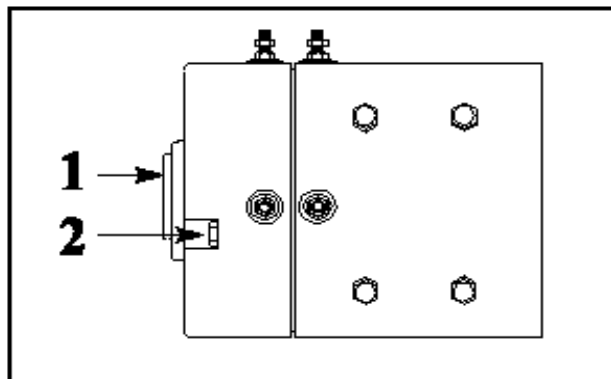

Figure 23 - Motor Disassembly
- Remove motor head cover (1) & two screws (2). See Figure 23.
Install motor head cover and armature assembly into field coil and frame assembly, aligning armature terminals to field coil terminals. See Figure 23.